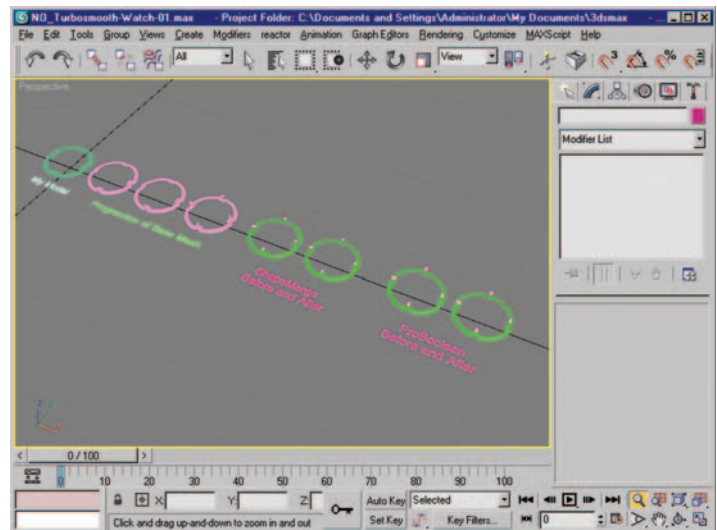

Figure 4.13 No_TurboSmooth_Watch-01 file upon opening.
1. Open the No_TurboSmooth_Watch-01 file. You will be presented with the mesh in several stages, including the mesh I created when I developed this approach (to show the cleaned-up result). The meshes in the file progress from left to right in the viewport. I have also added text labels for easy identification (Figure 4.13).